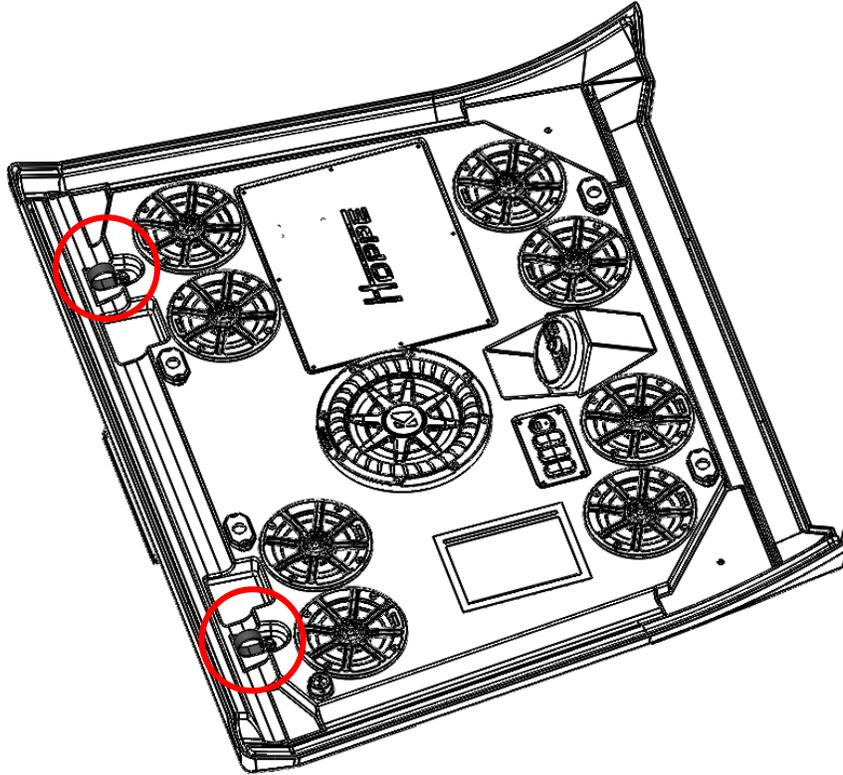
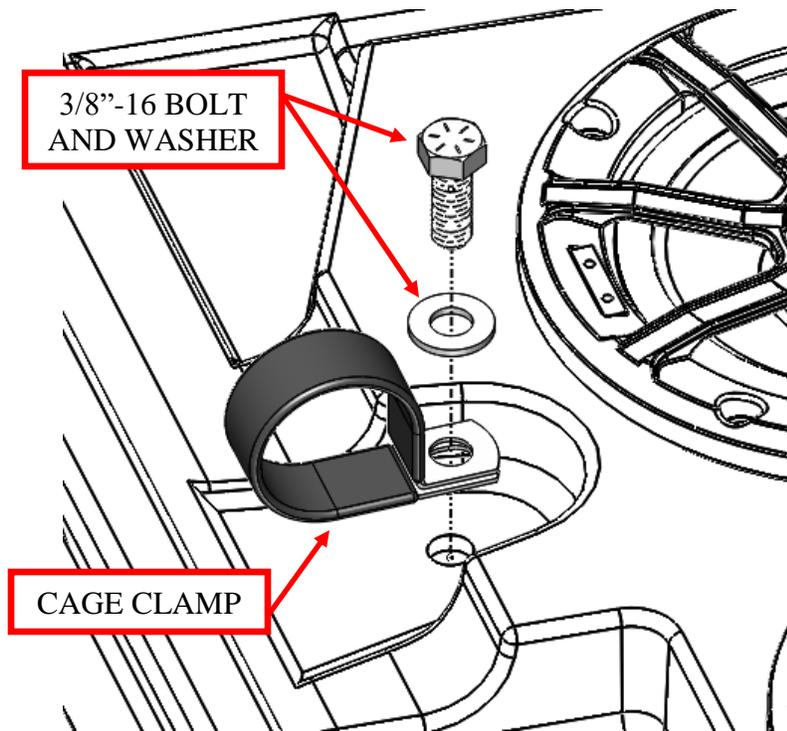

Figure 3: Remove the 2 clamps from the top.
Figure 4: Close-up of cage clamp hardware.
1. Remove the cage clamps and 3/8”-16 bolts and washers that come pre-installed on the top. Save the hardware for installation. See Figure 3 and Figure 4.
7. Slide the loop clamps into position so they line up with the threaded holes in the top. For both clamps, install the 3/8"-16 bolt with washer through both clamp tabs and into the threaded hole in the top. Use blue Loctite 243 (medium strength), and torque the bolts to 25 ft.-lbs. See Figure 4.